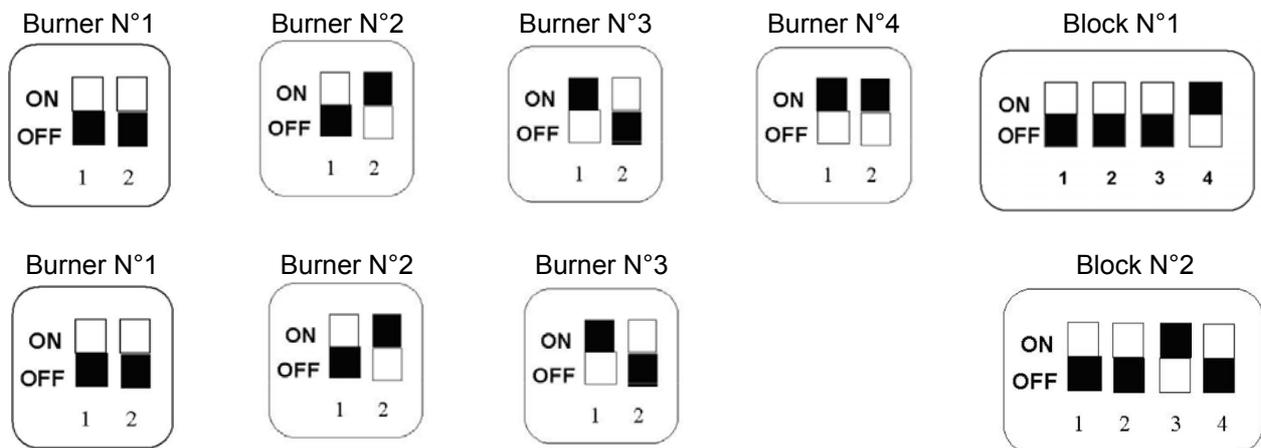

Figure 39
Refer to Table 1 to see the possible combinations of the jumpers J10 that characterize the four slaves (n 1, 2, 3 and 4) of the same block. Table 2, shows the possible combinations of the jumpers (J17). In Table 2 we have the settings for the maximum (15) number of block. In Figure 39 it is shown a configuration with seven units.
In case two blocks are present in an installation having a battery of seven burners (i.e. seven slaves): the first is made of 4 burners and the second is made of 3. As a consequence, two blocks need to be configured, respectively with address 1 and 2 and with relative burners, to the first block with address 1,2,3 and 4, and to the second block with address 1,2 and 3 (see Figure 39)